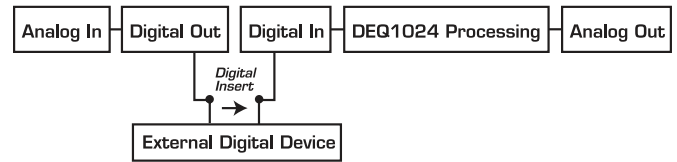

Fig. 2.5: Signal flow in PRE EQ mode
- 11 When you keep the **CONFIG** switch depressed for a few seconds, you can select the operating mode of your DEQ1024: **ANALOG** (green LED), **DIGITAL** (yellow LED), **PRE EQ** (yellow LED) or **POST EQ** (yellow LED). When in the PRE EQ or POST EQ mode, you can use the rear panel digital connectors as inserts, for example for an additional dynamics processor. When the unit is in PRE EQ mode, the insert point is located pre EQ; when the unit is in POST EQ mode, the insert point is located post EQ (see fig. 2.5 and 2.6).